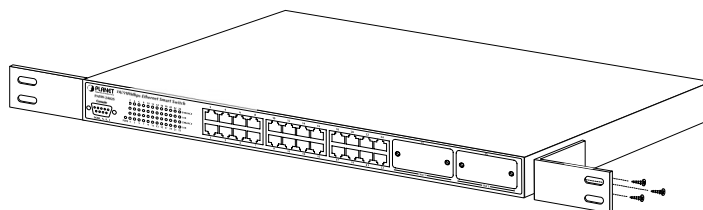

Figure 2-4 Attaching the brackets to the Switch
Step2: Attach a rack-mount bracket to each side of the Switch with supplied screws attached to the package. Figure 2-4 shows how to attach brackets to one side of the Switch.